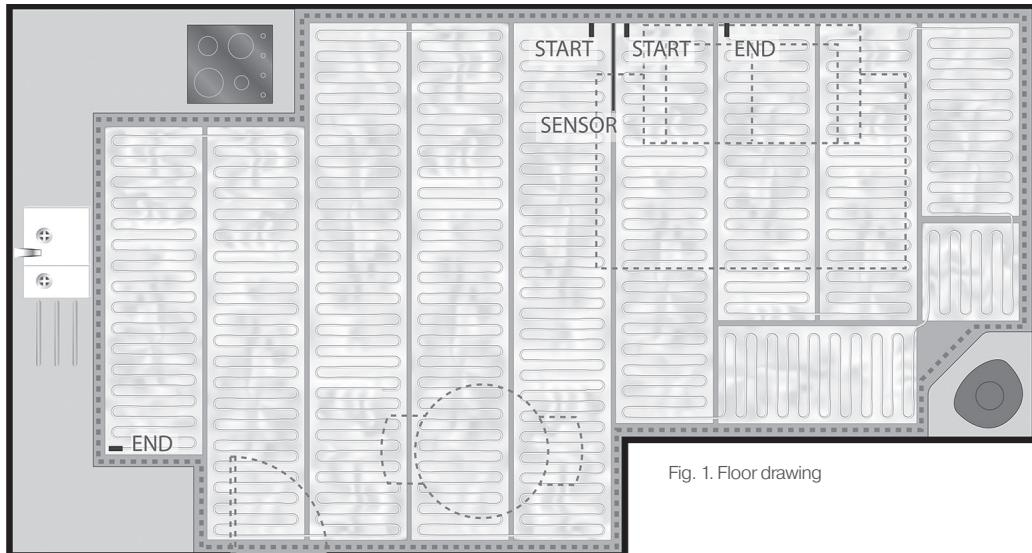
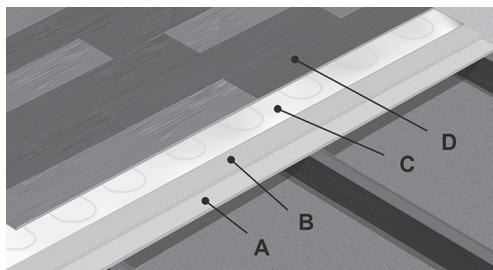

Fig. 1. Floor drawing
Fig. 2. Floor buildup
When planning the underfloor heating layout (Fig. 1), there are guidelines that must be followed to perform a correct installation. Below are the guidelines to be met when planning the installation and drawing of the room (see Fig. 1 – heated area demarcated by dashed line).
You must determine the connection point of the thermostat and location of floor sensor and include it in the drawing (see Fig. 1 as example).
**1.** Make your own drawing of the room, when planning the installation (Fig. 1). This is necessary to install the heating mat correct and to document the installation. A typical floor build up when installing the Alumat (Fig. 2).